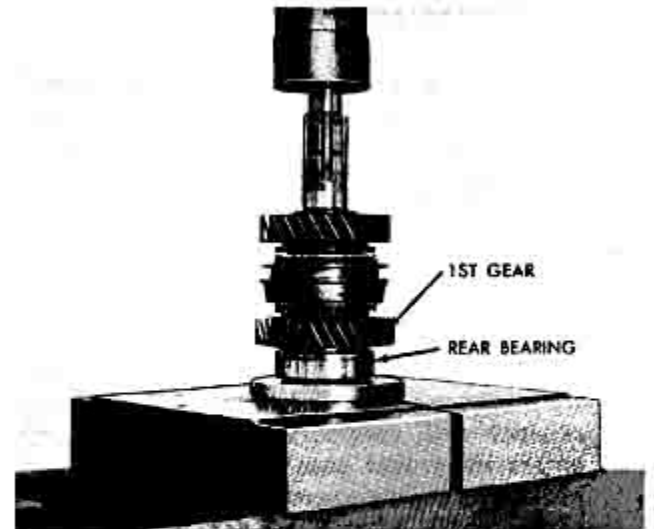

Fig. 19 Installing 1st Speed Gear and Rear Bearing
4. Install first speed gear on mainshaft with tapered cone surface facing front, install large flat washer and press on rear bearing, with its snap ring groove facing front, onto the mainshaft (Figure 19).